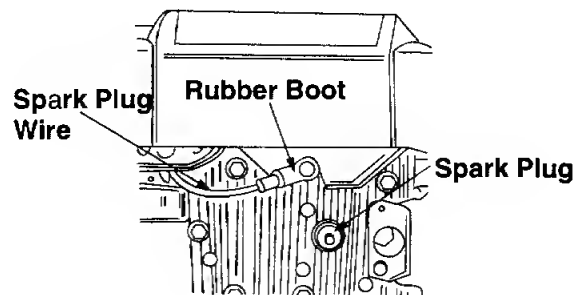

Figure 3
- Before setting up your lawn mower, disconnect the spark plug wire from the spark plug, and ground it against the engine. See figure 3.